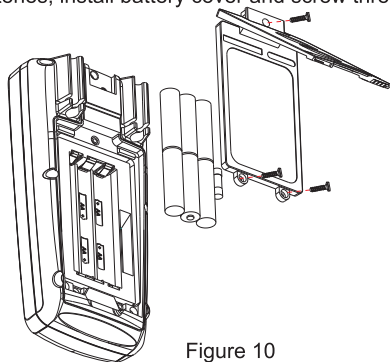

Figure 10
2. Battery/Fuse Installation or Replacement (See Figure 10)
The power supply for this product is 6 1.5V (No.5) batteries. Please install or replace batteries according to the sequence listed in Figure 10.
- ① Turn knob switch to the position of OFF (off) and remove private wire.
- ② Use standard cross screwdriver to remove three screws on the battery cover, remove the battery cover, take out batteries and install new batteries according to the polar indication.
- ③ Please use batteries in the same model. Do not install any inappropriate battery.
- ④ Please take out damaged fuse in the way shown in Figure 10 and replace it with fuse in the same specifications. Fuse specifications: 0.5A/1000V.
- ⑤ After installing new batteries, install battery cover and screw three screws.